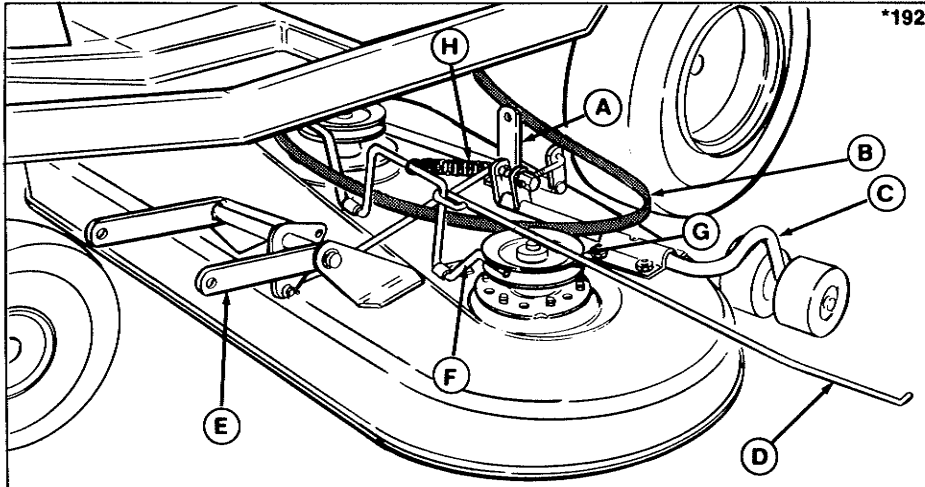
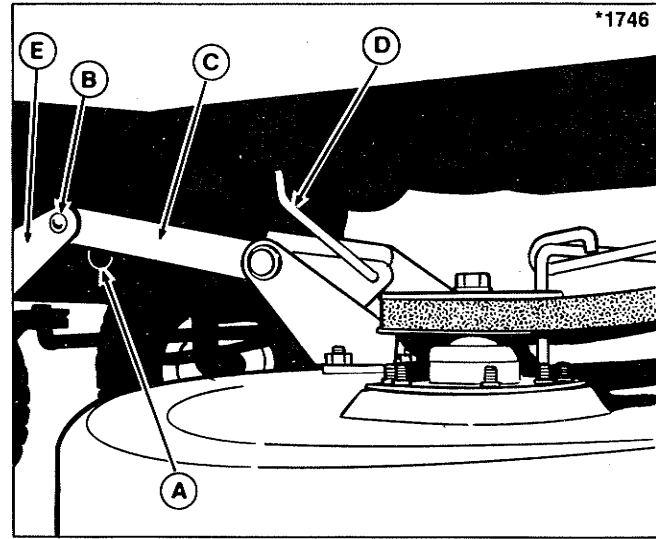
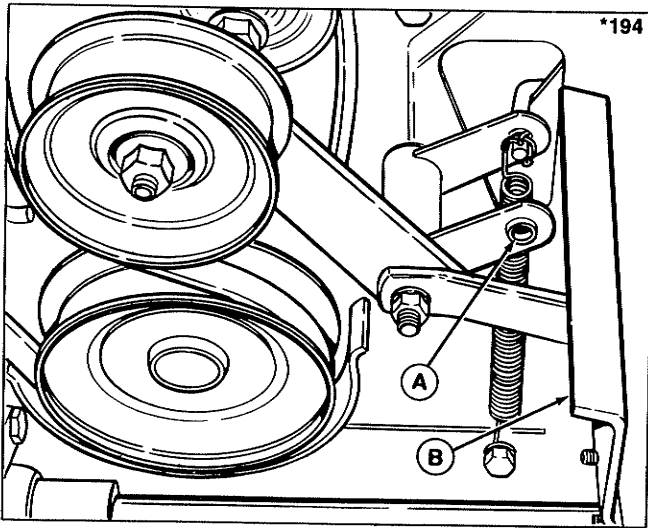
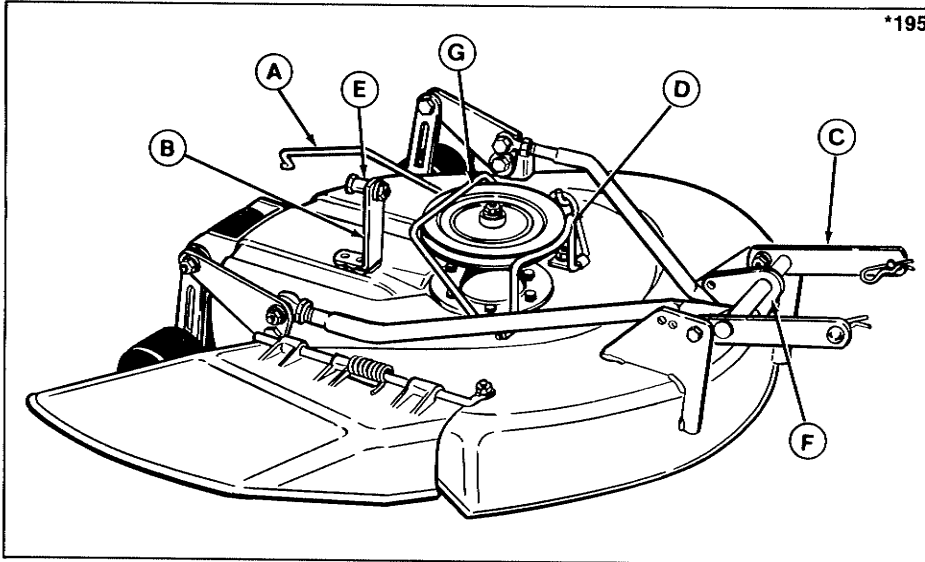

Figure 21. Installing 36" Mower
Figure 23. Mower Hitch
Figure 24. PTO Linkage
Figure 25. 26" & 30" Mower
1. Place mower on left side of rider with mower brake rod (D, figure 21) pointing left. Slide mower partially under and place belt over mower bracket (A).
4. Before installing mower, remove one end of brake spring (H, figure 21) and route loose belt under spring and brake rod (D). Reinstall spring.
5. To align the mower hitch in rider hitch ears, push the hitch arms up and insert between ears (figure 23). (Pulling up on roller arm will help raise hitch.) Secure the mower hitch with pins and spring clips. Install pins from the outside. Be sure to install clip fully onto large ring.
7. Install the belt on the pulleys. Push the mower brake (F, figure 21) away from the pulleys to install belt. Loosen left arbor pulley belt stop if necessary. Make sure "V" side of belt rides in pulleys and there are no twists in belt.
8. Push the brake (F, figure 21) away from the pulleys so the brake rod (D) will clear the tire and left side plate. Insert the brake rod just inside the left side plate and insert the end of rod into PTO linkage shown in figure 24. (Engage the PTO lever to change position of the linkage.) Secure the brake rod with a spring clip (insert spring clip from rear).
9. Put height control lever in lowest position. To slip the lift rod (D, figure 23) into the hitch flange, the front of the mower must be raised a little. One method is to insert a wooden handle under the front of the mower deck and lift slightly (in a lever action). Insert end of lift rod into the hitch flange. Secure the rod with a washer and cotter pin.
1. Remove the spring clip from the brake rod and remove end of rod from the PTO linkage (figure 24). Push brake rod forward to clear left side plate and tire and swing rod out toward left side.
Loosen the hardware which secures the pulley belt guard (G, figure 25). The guard must be loose to install the belt.
5. Go around to the right side of the rider. Push the mower forward so rear roller will clear the tire then push mower under rider. Slip the belt over the mower bracket (B, figure 23).
6. Position the mower under the rider so that the mower bracket (B) is behind the rider upstop bracket.
7. Push the brake (D, figure 25) away from the pulley and slip the belt into the pulley. Be sure there are no twists in the belt. Tighten the belt guard (G, figure 25) hardware securely.
8. Lift up the front of the mower to align the hitch arms between the rider hitch ears (figure 23). Insert the two pins while holding mower up. Install the two spring clips in the pins.
9. Lift up the front of the mower and insert the lift rod (D, figure 23) into the hitch flange. One method to lift mower is to insert a wooden handle under the front edge of the mower deck and lift slightly (in a lever action). Place washer on lift rod then install spring clip.
10. Apply a little grease to the inside of the spacer (E, figure 25) and place the spacer on the bolt. Install the bolt thru the upstop bracket and mower bracket from the front. Be sure spacer is inside the upstop bracket. Install the locknut on the bolt. Tighten securely.
11. Push the brake (D, figure 25) away from the pulley to insert the brake rod (A) just inside the left side plate. Insert the rod into the PTO linkage shown in figure 24. Insert the spring clip into the rod from the rear.
5. Loosen the hardware that secures the mower pulley belt guide (G, figure 25). Push the brake (D) away from the pulley and slip the belt out. Push the mower to one side and slip belt between mower bracket (B) and upstop bracket.
6. Remove the spring clip from the rear of the brake rod (A) and pull rod out of the linkage.
7. Remove the spring clip from the lift rod (D, figure 23). Remove the washer.
8. The mower must be lifted slightly to remove the lift rod from the mower flange (F, figure 25). One way is to insert a wood handle under edge of mower and lift up in a lever action. Pull lift rod out of the hole.
4. Loosen the idler pulley (K) mounting hardware. If pulley is removed, remember the position of the washers and belt stop (M).
5. On the 36 inch mower, loosen the left arbor pulley belt stop. On 26 inch or 30 inch mower, loosen the belt guide (G, figure 25).